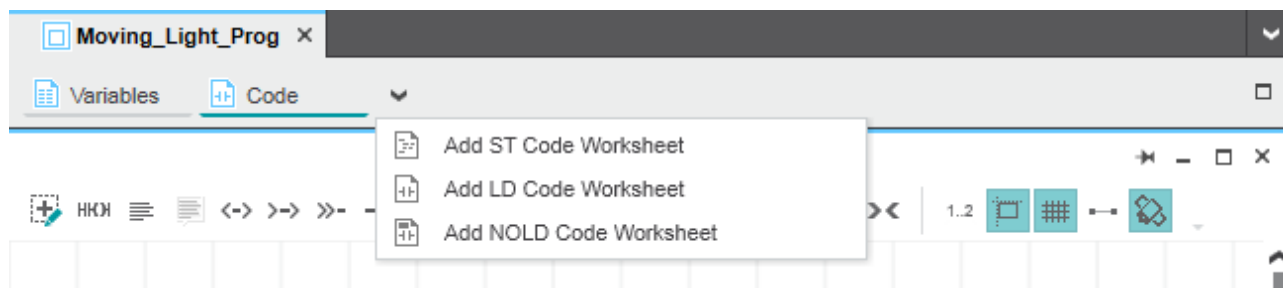

Figure 6-35 Adding a code worksheet to a POU
- Select a worksheet in the program editor (in Figure 6-35: “Code” editor).